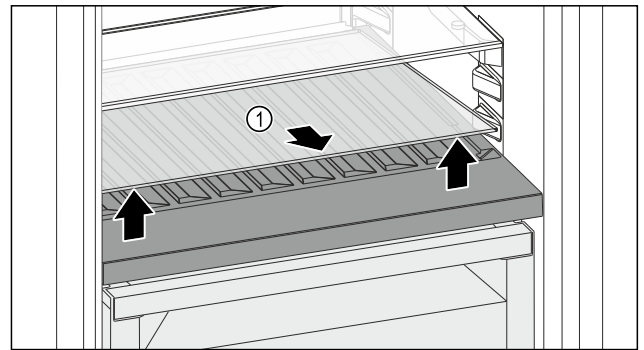

Fig. 84
- ▶ Lift the glass shelf Fig. 84 (1) in the front at the recess and pull it out.
- ▶ Store the glass shelf Fig. 84 (1) somewhere safe outside of the appliance.